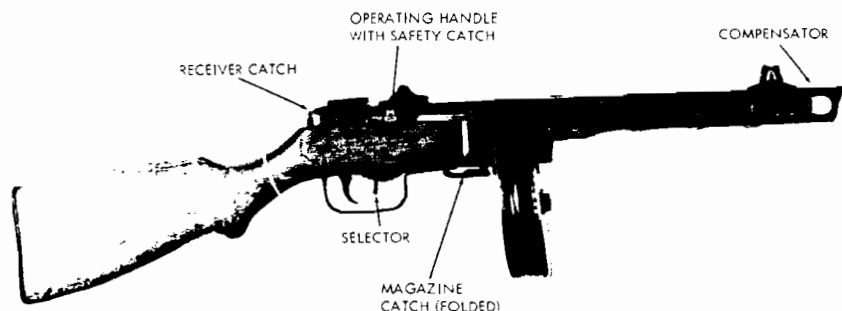

Figure 12. 7.62-mm submachinegun Model 1941 (PPSh-41).
a. The Model 1941 submachinegun (fig. 12) was produced in enormous numbers by the Soviet Union during World War II and, after the war, was distributed to many nations in the form of Soviet military assistance. Although obsolete in the Soviet Army, the PPSh-41 is still used by many of the other Eurasian Communist countries and has been manufactured in Hungary, Iran, North Korea, and Communist China. These weapons are: Hungarian, the 48M submachinegun; North Korean, the Type 49 submachinegun; ChiCom, the Type 50 submachinegun. The national origin of these weapons can usually be determined by the receiver markings. If these markings are obscured, the rear sight offers a major clue. Soviet and Iranian PPSh-41's and Hungarian 48M's have V-notched rear sights; the North Korean Type 49 and the ChiCom Type 50 have aperture rear sights. Minor changes can be found in the design of various components, depending on the time and place of manufacture. Because these changes do not affect the handling or operation of the weapon, they will not be covered in detail. One extensively altered gun, the North Vietnamese K-50 submachinegun, is covered in section II C. Some PPSh-41's were converted to use the 9 x 19-mm Parabellum cartridge by the Germans during World War II and by Iran after the war; these versions are now rarely found.
used, and the serial numbers on the drum and on the gun do not coincide, the drum/gun combination should be test fired prior to use. Slide the safety catch (fig. 12) on the operating handle outward, if necessary, and draw the handle fully to the rear. Caution: The submachinegun is now ready to fire! Position the selector (fig. 12) according to the type of fire desired; forward for automatic, rearward for semiautomatic. If immediate firing is not anticipated, place the weapon on safe by pressing the safety catch inward into the slot in the receiver. Slide the safety catch out to the ready position when ready to fire.